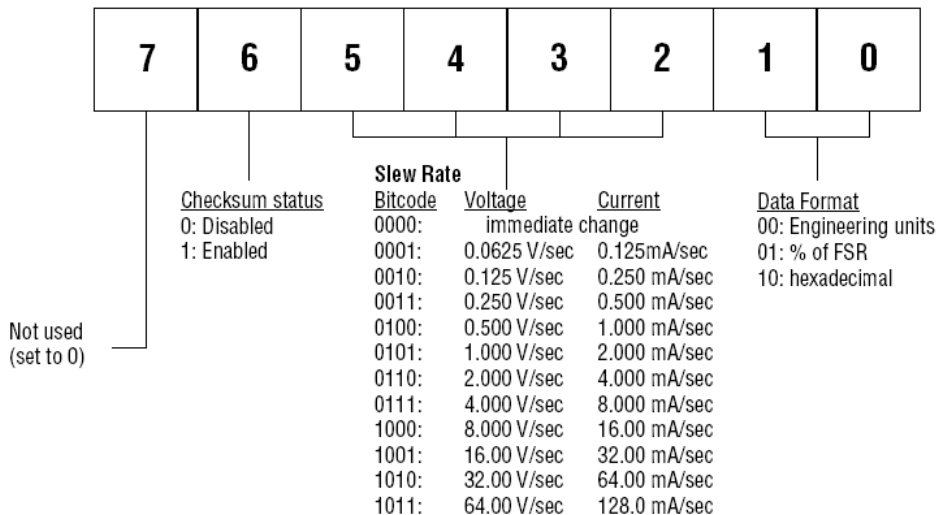

Figure 6-1 *Data format for FF (8-bit parameter)*
- FF** is a hexadecimal number that equals to 8-bit parameter representing the status of data format, slew rate, and checksum. The layout of the 8-bit parameter is shown in Figure 6-1. Bit 7 is not used and must be set to 0.